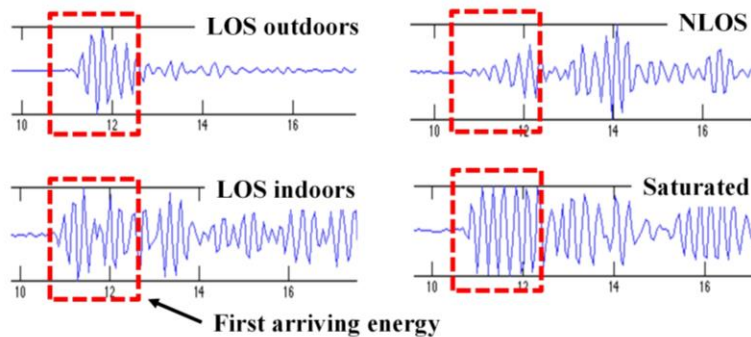

Fig.2: Received waveforms captured at 61ps intervals (2x Nyquist) in a variety of environments
- By analyzing the shape of the received waveform it is possible to determine importation characteristics of the channel such as (a) whether or not the signal is clear or non-line-of-sight (NLOS), (b) determine if the signal is in compression, and (c) whether or not the signal is corrupted by multipath or Fresnel effects. This is illustrated in **Figure 2**.